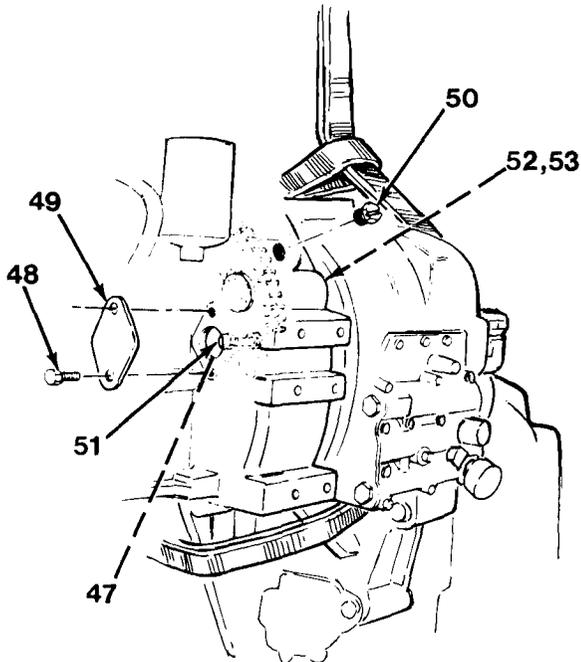

Figure 6-7
1. Engine flywheel is bolted to transmission converter drive plate with 12 capscrews (47). Access to 12 capscrews (47) is through engine side of flywheel housing. Remove two capscrews (48), cover plate (49) and plug (50, Figure 6-7) on right-hand side of flywheel housing.
2. With a barring tool or large screwdriver, rotate ring gear through plug (50) access hole until each capscrew (47) is lined up with access hole (51). Use a 9/16 in. socket and remove 12 capscrews (47).